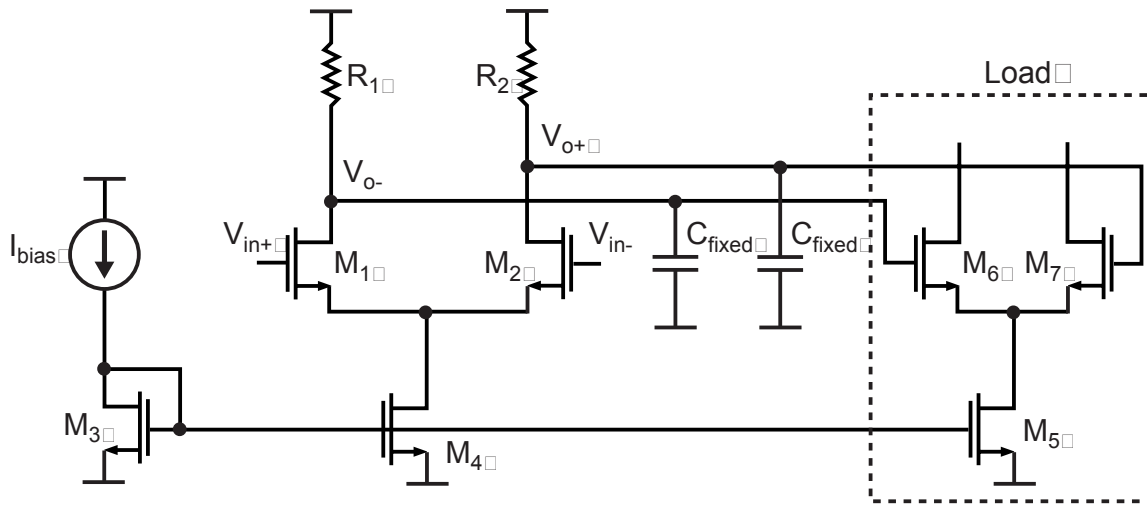

Figure 3: A high speed differential amplifier.
3. This problem focuses on the design of the broadband differential amplifier shown in Figure 3 based on the techniques described in class. Perform all computations based on the transistor models contained in the 0.18u Spectre model file provided on MIT server in the file `/mit/6.776/Models/0.18u/cmos018.scs`. For simplicity, assume all devices are the same size with transconductance g_m , all resistors are of the same value R , and that C_{fixed} , which corresponds to wiring capacitance, equals 10 fF.